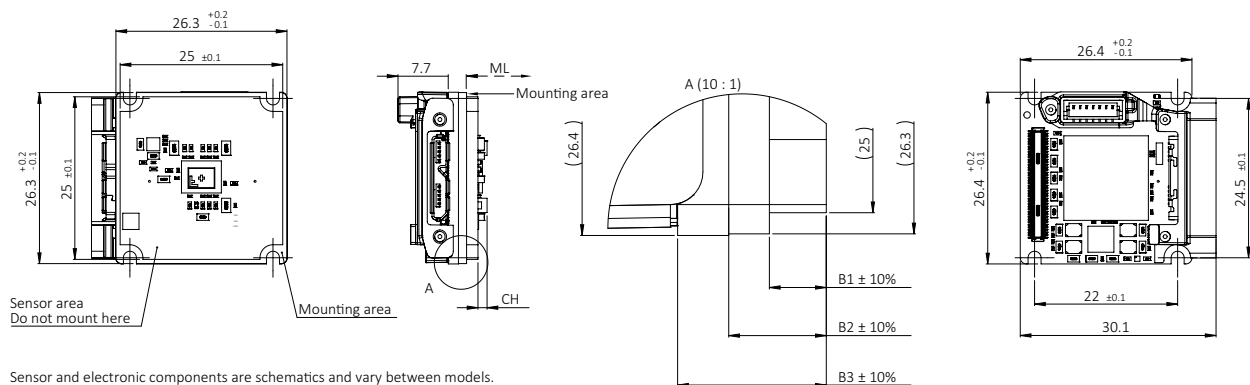

Figure 49: Bare Board 90° dimensions
Dimensions that are common between different models are shown in Figure 49, model specific dimensions are listed in Table 74. **Mechanical length (ML)** defines the mechanical distance from the mounting area to the lens mount front flange,